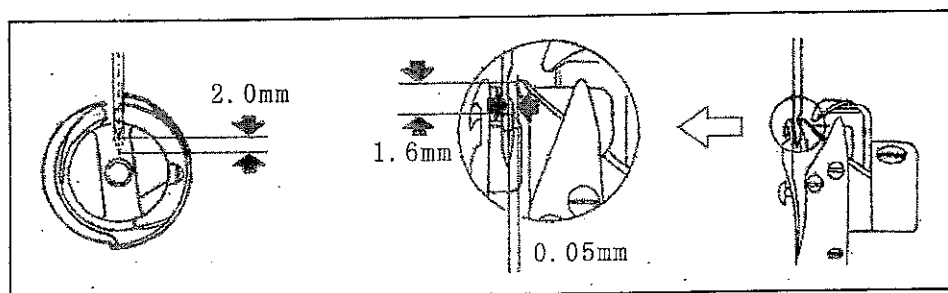

Fig.16
24. The gap between hook assembly and needle adjustment(Fig.16)